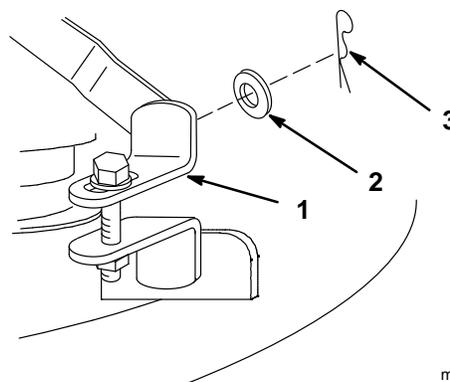

Figure 12
- Remove (2) 2-9/16" hairpin cotters and (2) 1/2" washers from front adjustable links and remove from front lift arm (Fig. 12).